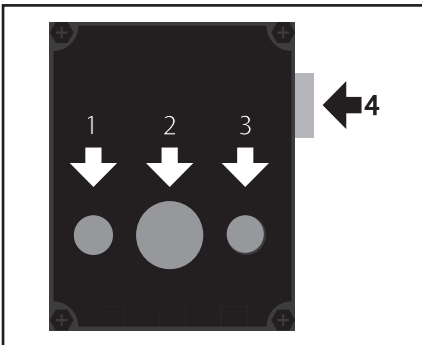
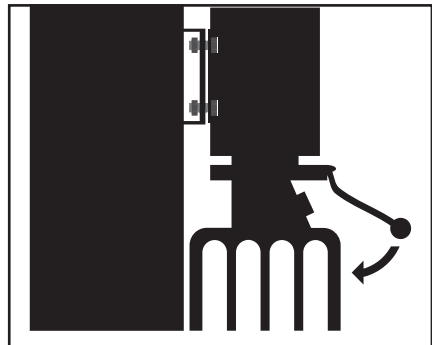
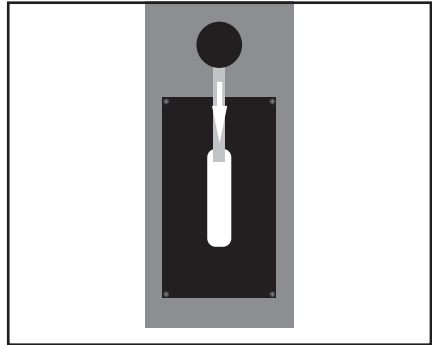

Fig. 26
Fig. 27
Fig. 29
2. Turn main power switch (4, Fig. 26) from 'off' to 'on', green light (1, Fig. 26) is now on.
3. Press the LIFT button (3, Fig. 26), raise the vehicle to a height of 1 metre.
5. Press the LIFT button (3, Fig. 26) and raise the vehicle to the preferred height.
Release the LIFT button (3, Fig. 26), the lift bridge remains in place.
1. Press down the lowering lever (Fig. 27) until the lift hangs in the latch.
1. Raise the lift bridge slightly (3, Fig. 26), then press the lever (Fig. 29) down so that the lock is released.
2. Hold the lever (Fig. 29) in the lower position and hold the lowering lever (Fig. 27) until the lift is completely lowered.
8. During an emergency, switch off the power using the emergency stop (2, fig 26).